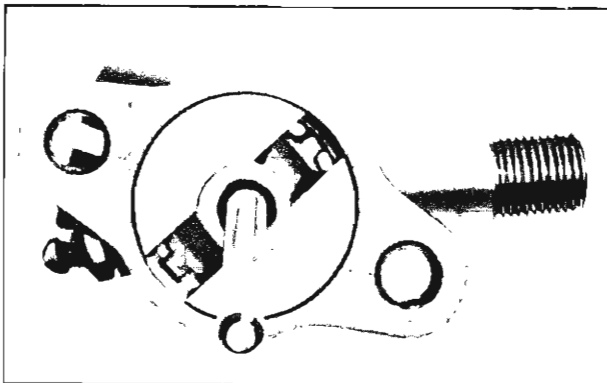

Fig. 86—Proper Key Installation
4. Insert the key, making sure that the small tangs on the ends of the key fit into the notches in the sleeve (fig. 86).